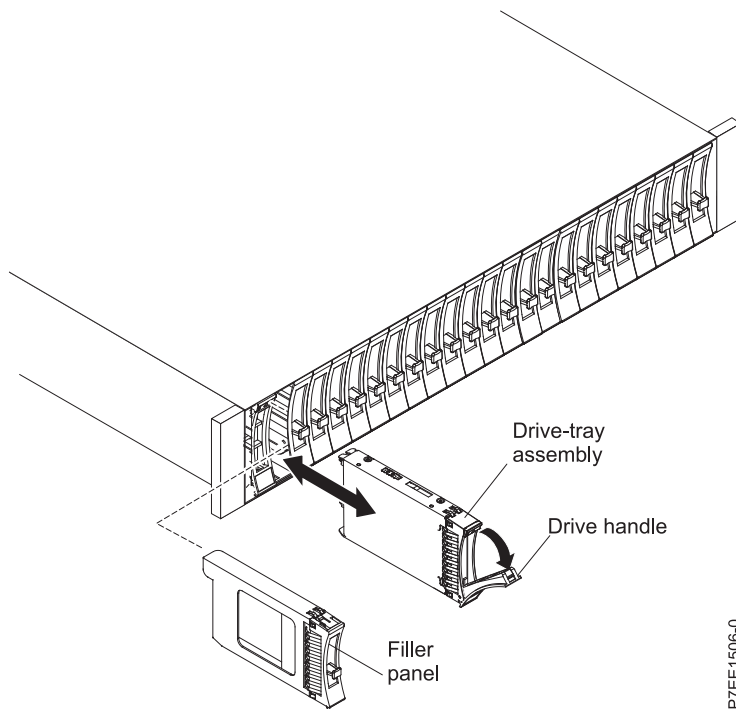

Figure 34. Removing a drive from an ESLL or ESLS storage enclosure
4. Grasp the front of the drive and pull it out from the slot, ensuring that you support the bottom of the drive, as shown in Figure 34 on page 30.